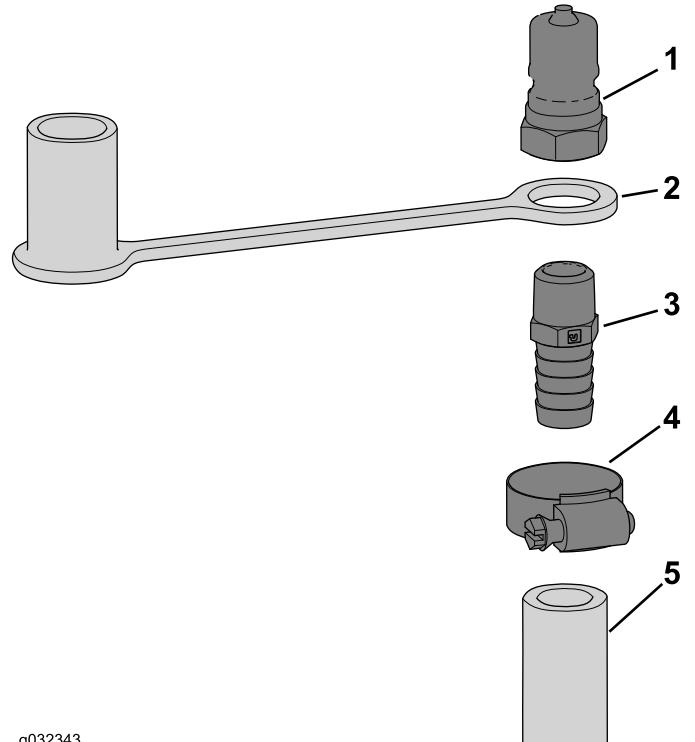

Figure 16
2. Slide the dust cap over the threaded end of the straight fitting as shown in Figure 16.
3. Thread the straight fitting to the male coupler (Figure 16).
5. Slide a hose clamp over the hose (Figure 16).
6. Insert the barbed end of the assembly into the hose and secure it with the hose clamp as shown in Figure 16.